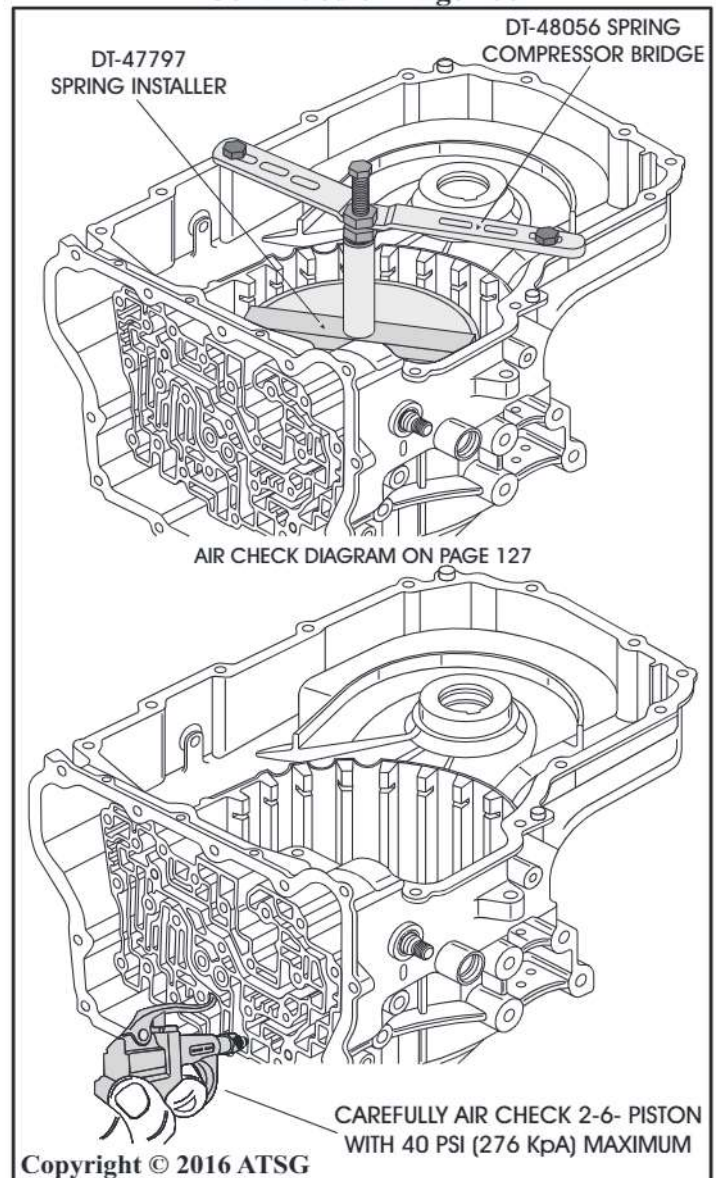

Figure 152
39. Install the 2-6 clutch spring retaining snap ring on top of the 2-6 clutch piston return spring with the snap ring gap facing the largest opening towards the bottom of the case and install the DT-47797 spring installer on top of the spring as shown in Figure 152.
40. Position the DT-48056 spring compressor bridge and bolt it to the transmission case so the screw is centered over the spring installer as shown in Figure 152.
42. Carefully air check the 2-6 piston assembly as shown in Figure 152 to insure correct operation, **do not exceed 40 psi.**